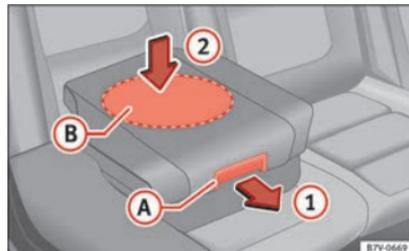

Fig. 98 Integrated child seats. lowering the cushion
- Pull the unlock lever » **Fig. 98** (A) on the cushion in the direction of the arrow (1).
When lowering the integrated child seat, only press on the centre of the cushion **»» Fig. 98 2**. Otherwise the cushion could bend and not engage properly.